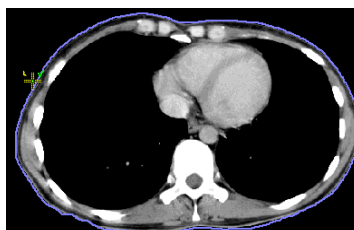

Figure 247 – Defining the left point of the bolus
- Define the leftmost point of the bolus by clicking the contour. The cursor marked as **L** will also be displayed with a green tick when it reaches the contour line of the currently selected ROI (see Figure 247).